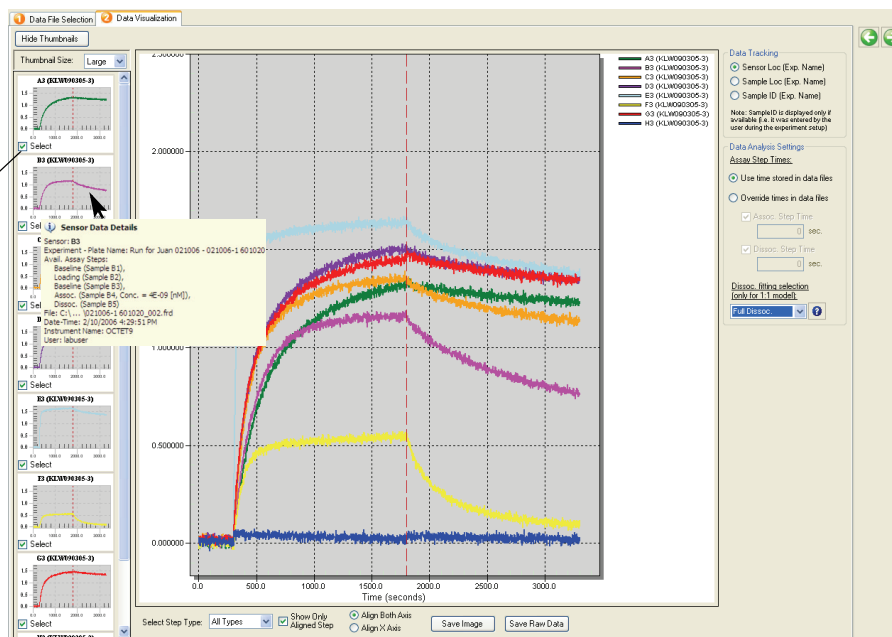

Figure 5.12 Kinetics Data Analysis window, Data Visualization tab
- The binding charts for all sensors are displayed (thumbnails of individual sensor data at the left) (Figure 5.12).